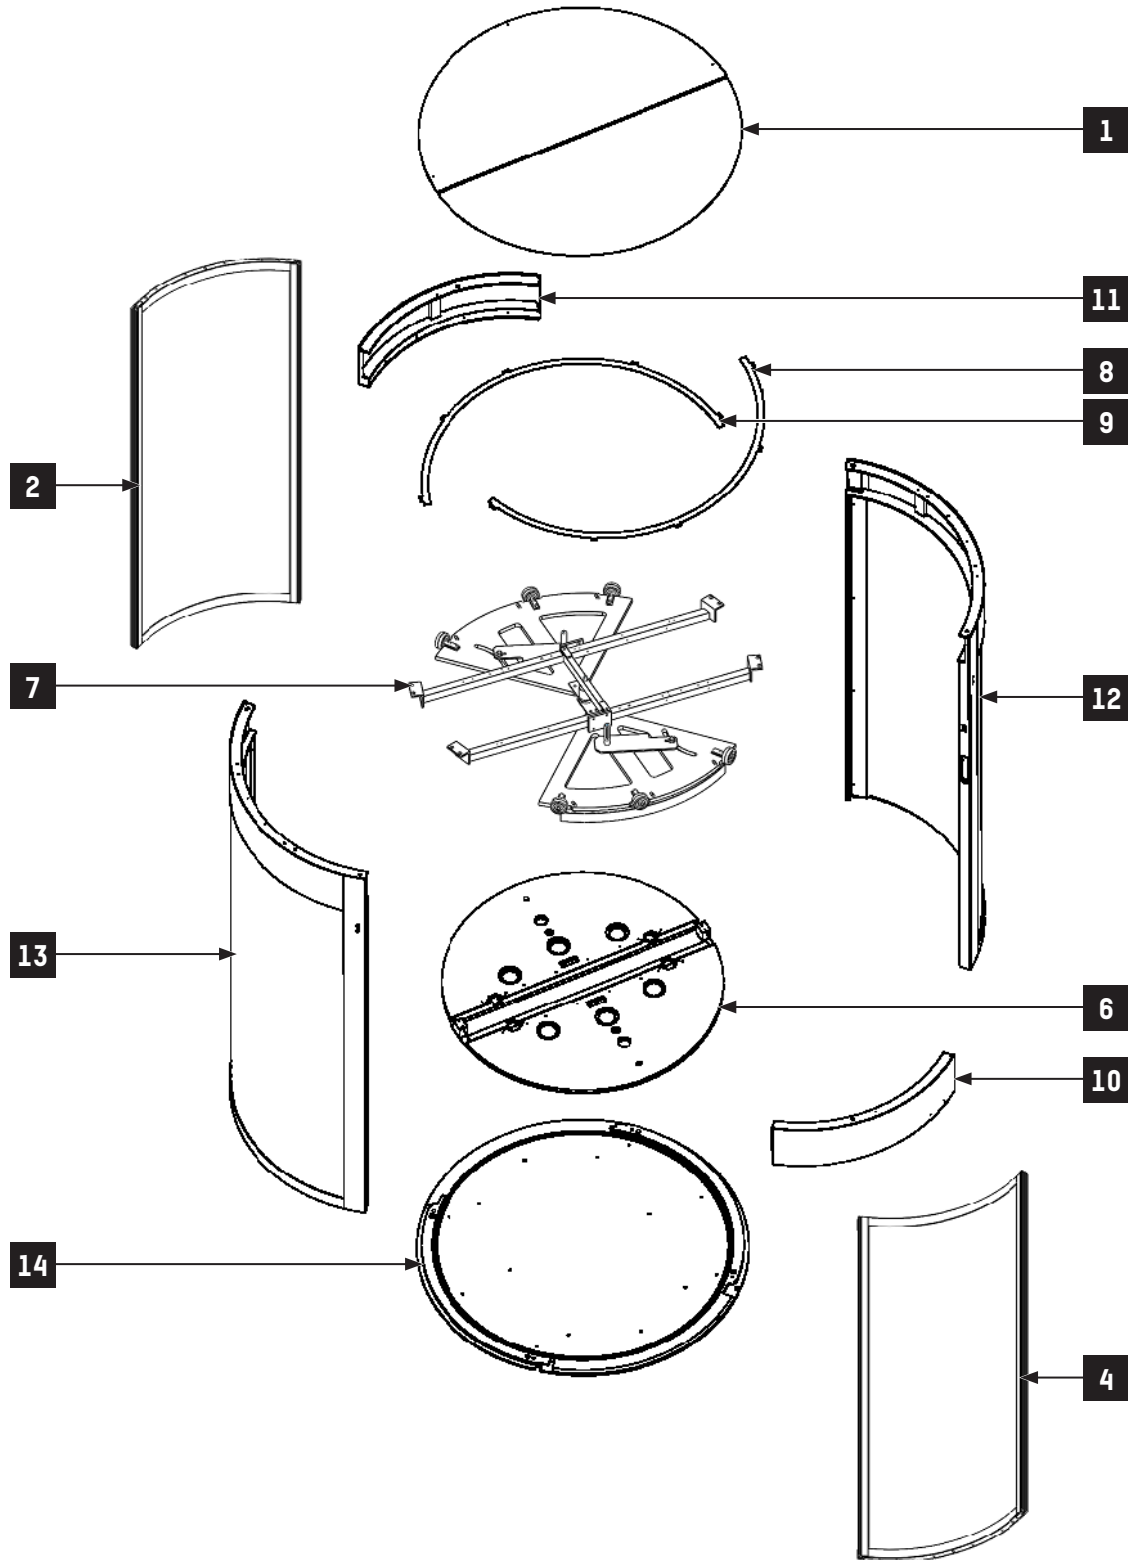

Fig. 30 - Exploded view
1. Dismantle dust-proof roofs (Part 1, Fig. 30, page 54).
3. Remove the ceiling (Part 6, Fig. 30, page 54).
5. Unscrew the nuts (Part B, Fig. 31, page 55) and remove the doors (Parts 2-4, Fig. 30, page 54).
6. Disassemble the handling pylon (Part 7, Fig. 30, page 54).
7. Remove the wheel slide supports (Parts 8 and 9, Fig. 30, page 54).
10. Disassemble the upper fronts (Parts 10 and 11, Fig. 30, page 54) by unscrewing the side screws.
11. Disassemble vertical glass stoppers (Part E, Fig. 32, page 55) and lower horizontal glass stopper (Part F, Fig. 32, page 55) of both side walls (Parts 12 and 13, Fig. 30, page 54).
13. Unscrew all screws joining the side walls (Parts 12 and 13, Fig. 30, page 54) to the base of the safety cab (Part 14, Fig. 30, page 54) and remove the walls.